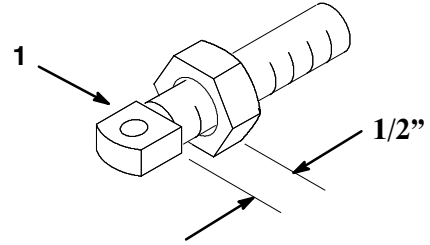

Figure 5
21. Thread a jam nut onto new adjusting pin until the outer edge, of nut, is 1/2" from head of adjusting pin (Fig. 5).